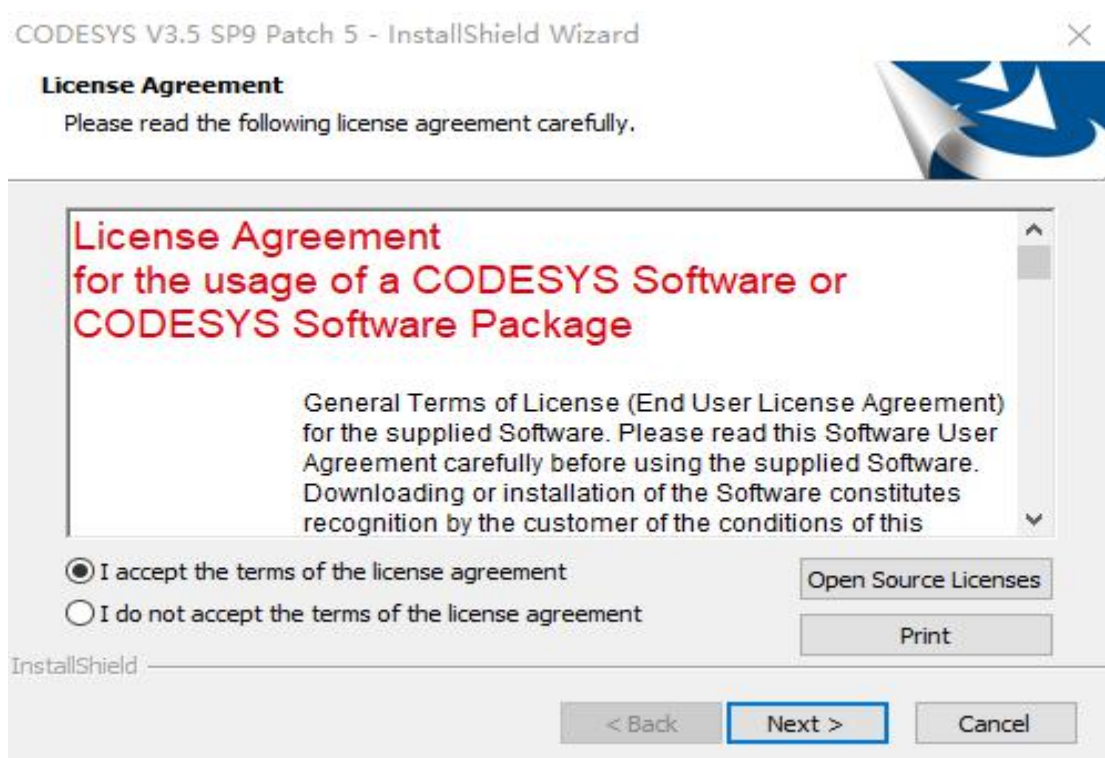

图 2-1-5 CodeSys IDE 安装步骤 3
3、出现图 2-1-5 所示界面, 选择“I accept the terms of the license agreement”, 点击“Next”;